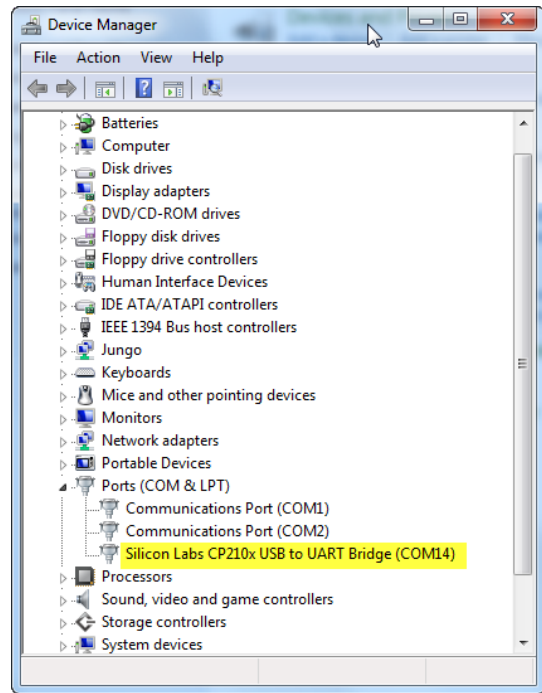

Figure 29 – Device Manager showing COM Port for A-910 Dongle
5. Locate **SILICON LABS CP210x USB to UART Bridge (COM x)** (see Figure 29).